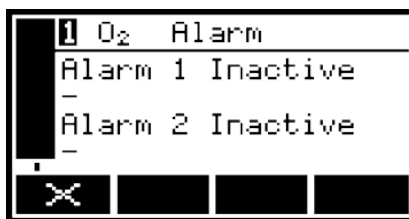

Figure 31 - The Alarm status screen
2. With the "View" option highlighted, press the  soft key. The Alarm status screen will then be displayed (see Figure 31).
In the Alarm status screen shown in Figure 31, both measurement alarms are shown as "Inactive"; that is, either the mode of each alarm is set to 'none', or no alarm condition currently exists.